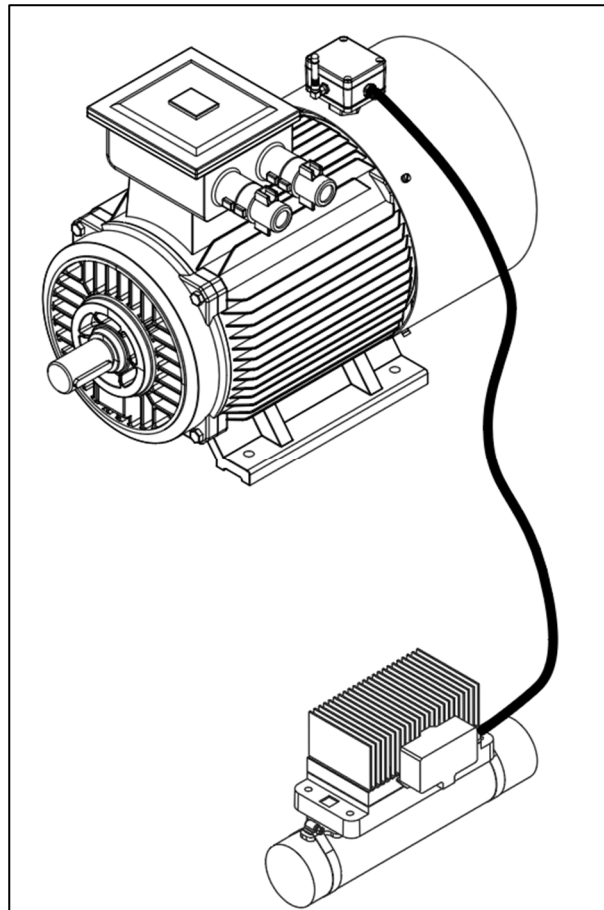

Figure 15.- Connection between InduEye® and Power supply (Thermoelectric generator module)
3. On the other side, from the power generation module, in this case a Thermoelectric generator, make sure the connection between modules is properly done (Figure 15).